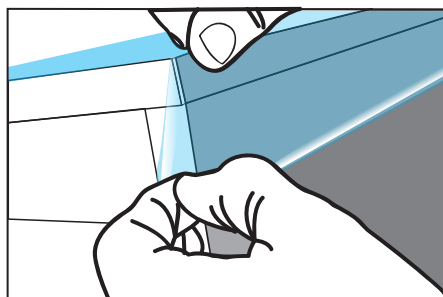

Figure 10
- › Apply the film over the second edge and wrap the corner with a slight overlap of both films. (FIG. 10)